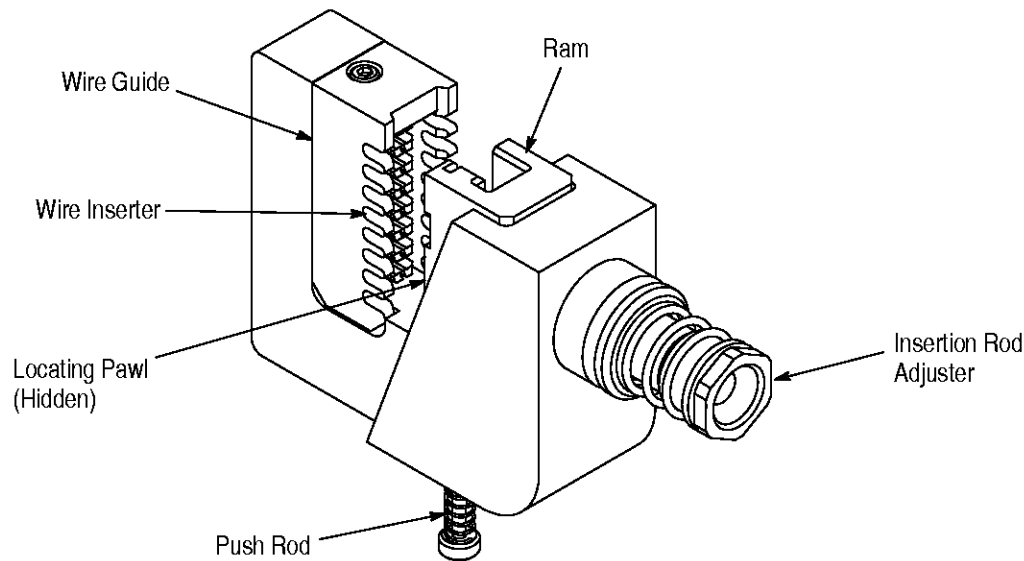

Figure 1
AMP* Mass Insertion Terminating Head 58646-2, shown in Figure 1, is designed to terminate AMP MTA 156 feed-through receptacle connectors (positions 2 through 8) onto notched ribbon cable sizes 26 through 18 AWG with a maximum insulation diameter of 1.78 mm [.070 in.]. Refer to Figure 2 for reference connector part numbers.
2. DESCRIPTION (Figure 1)